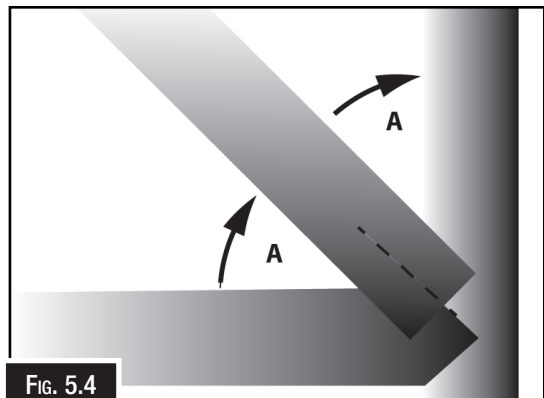

Fig. 5.4
2. Carefully identify top centerline, and mark it on tube. See Figure 5.4.